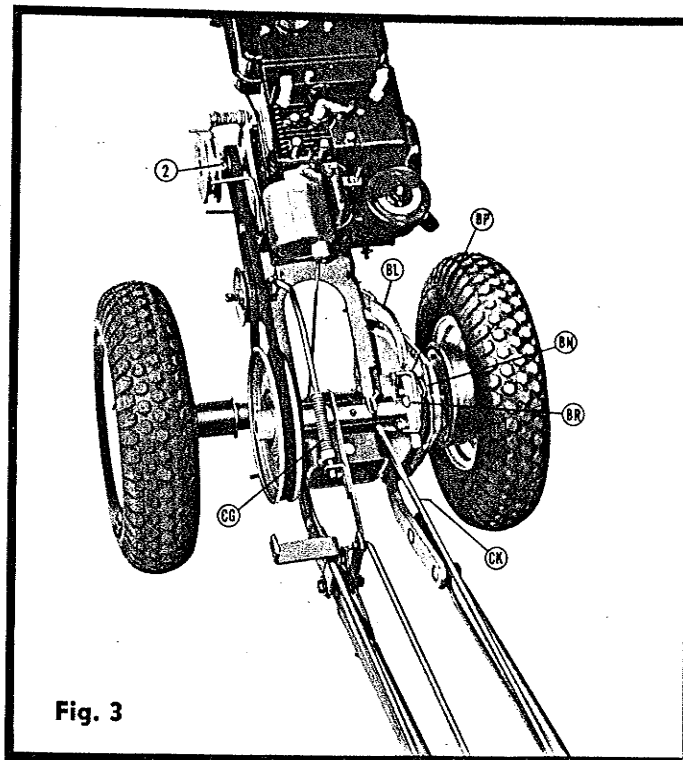

Fig. 3
2. To change to low speed, please refer to Fig. 3.
- b. Loosen engine pulley set screw (2), remove engine pulley, turn it around and replace with large pulley to outside.
- d. Remove spring clip (BN) and lock pin (BR) from front hole in lock bar.
- e. Pull transmission slightly to the rear so that pin (BR) will enter rear hole as shown in Fig. 3. To facilitate this adjustment, a convenient handle (BP) is provided.
- f. Replace spring clip (BN) to hold pin.